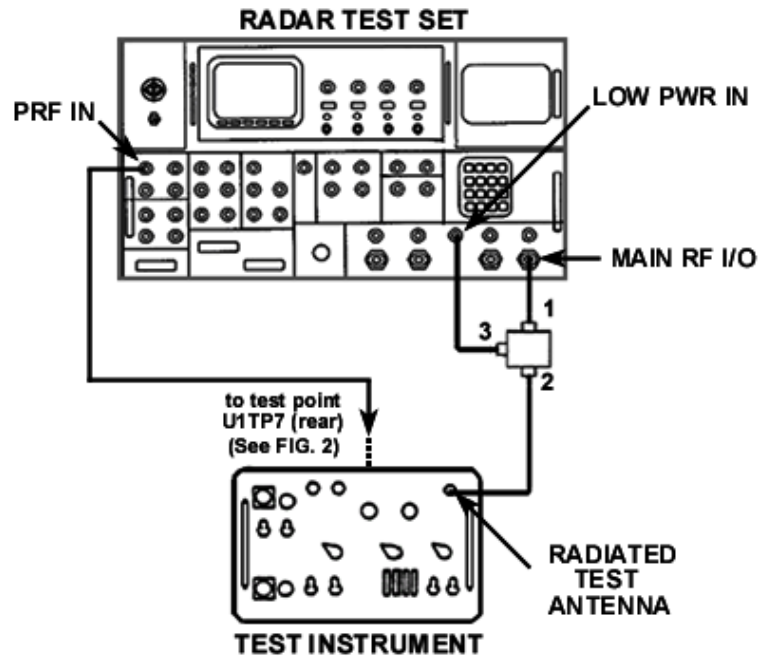

Figure 1. Receiver sensitivity – equipment setup.
- k. Connect equipment as shown in figure 1.
(3) Remove cable from TI **RADIATED TEST ANTENNA** connector (fig. 1) and connect end of cable to peak power meter sensor.
(4) On radar test set **Menu 11**, set **CW** to **ON** and measure and record power output at end of cable while cycling RF output between power settings noted in (2) above for threshold point. Average result should be -6 dBm  $\pm$  1 dB, if not perform **b** below.
(5) Set radar test set **Menu 11, CW** to **OFF**. Disconnect cable from peak power sensor and reconnect to the TI **RADIATED TEST ANTENNA** connector (fig. 1).
(2) Set TI **POWER** switch to **ON**.
(3) Connect end of cable which was connected to TI **RADIATED TEST ANTENNA** connector (fig. 1) to peak power meter sensor.
(4) On radar test set **Menu 11**, set **CW** to **ON** and adjust RF power to obtain a reading of -6 dBm on peak power meter.
(5) Set radar test set **Menu 11**, **CW** to **OFF**. Disconnect cable from peak power sensor and reconnect to the TI **RADIATED TEST ANTENNA** connector (fig. 1).